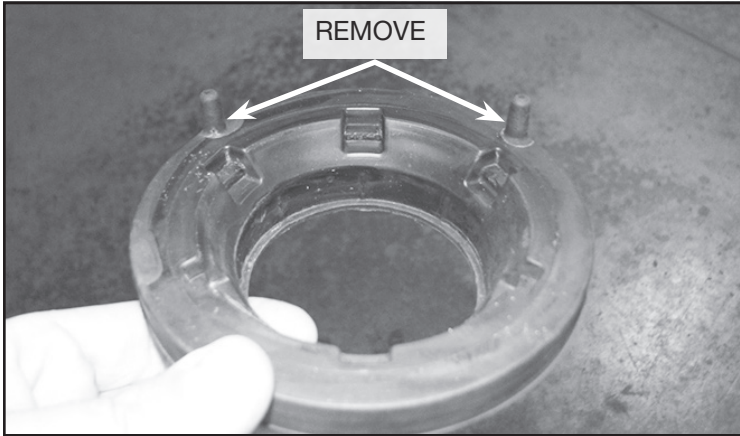

FIGURE 7 - STEP 7
7. Remove the upper coil spring rubber isolators. Cut off both nipples from each upper isolator. **SEE FIGURE 7**